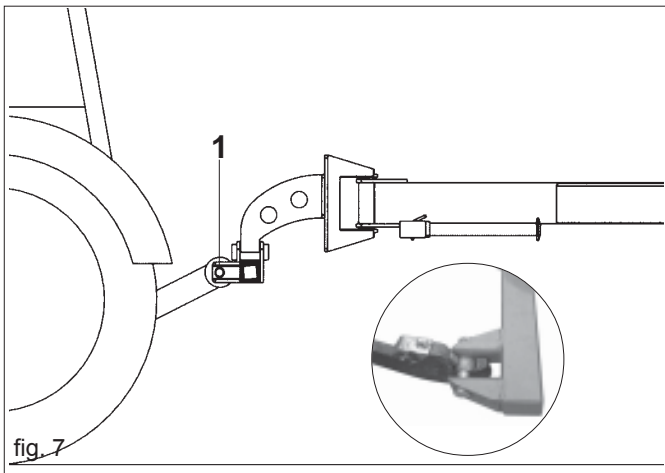

fig. 7
- 1) Hook the lifter bars on the preset pins (1 fig. 7). Block with the snap split pins.
- 3) Unhook the first and second point (Fig. 7).